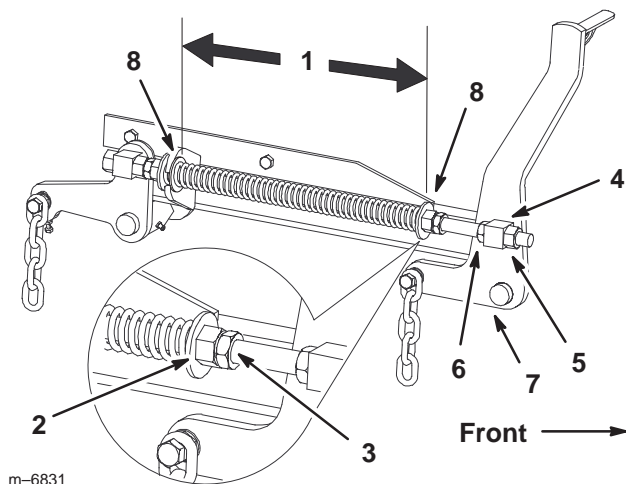

Figure 72
7. Loosen the front swivel jam nuts, at the front of the right and left swivels, approximately a 1/2 inch (13 mm) (Fig. 72).
8. Adjust the lift nuts on both the left and the right side of the machine to achieve **1/4 to 3/8 inch (6 to 10 mm) lower in front at A than in the rear at B** (Fig. 72).
2. Check the distance between the two large washers, it needs to be 10-1/2 inches (26.7 cm) (Fig. 72).
- Adjust this distance, by loosening the spring jam nut and turning the nut in front of each spring (Fig. 72). Turning the nut clockwise will shorten the spring; counter-clockwise will lengthen the spring.
- Lock the nut into position by tightening the spring jam nut (Fig. 72).